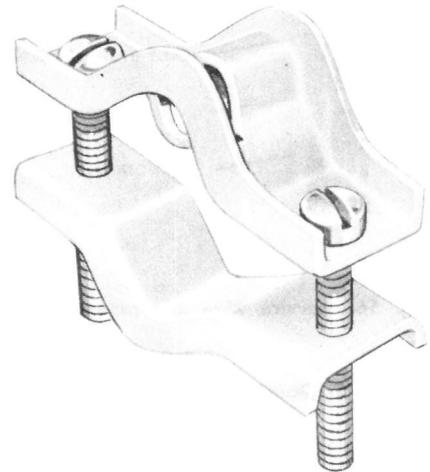

Fig. 55—B Ground Clamp
6.24 The B ground clamp (Fig. 55) is installed as follows: